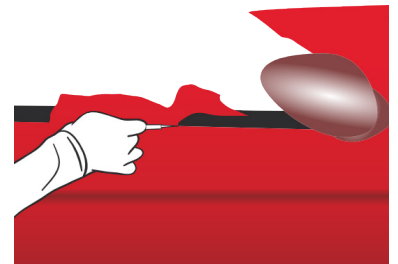

Figure 39
- › For the cut, the blade must be placed in a flat position, between the body and the seal, perpendicular to the seal. When cutting, make sure you always maintain this blade inclination. (FIG. 39)